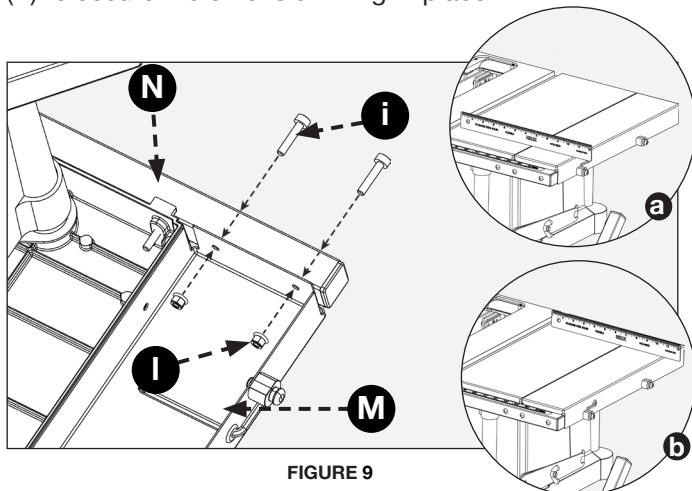
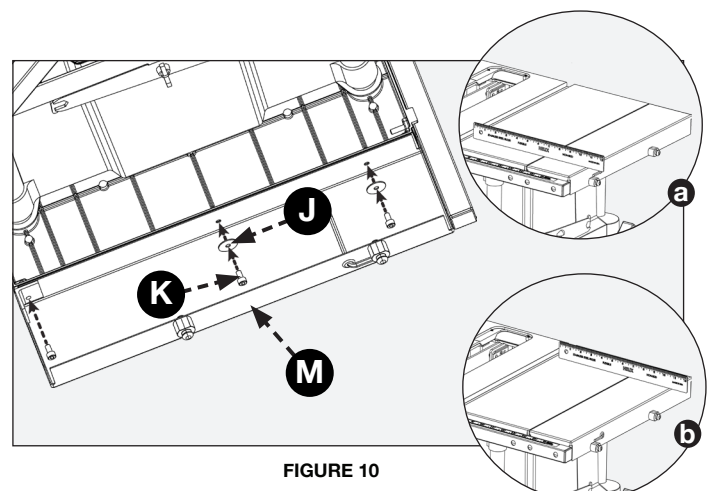

FIGURE 9
FIGURE 10
Insert (2) remaining M5 x 25mm hex socket cap screws (i) through the fence rail (N) and extension wing (M) and secure with (2) M5 kep nuts (l) as shown in Fig. 9. Use straightedge to ensure extension wing is level as shown in Fig. 9a and 9b.
**NOTE:** Leave the screws loose enough to make adjustments for leveling the extension wing (M) to the table.
Attached extension wing (M) to the table with (3) M5 x 10mm (3/8 in.) hex socket cap screws (K) and (2) M5 flat washers (J) as shown in Fig. 10.